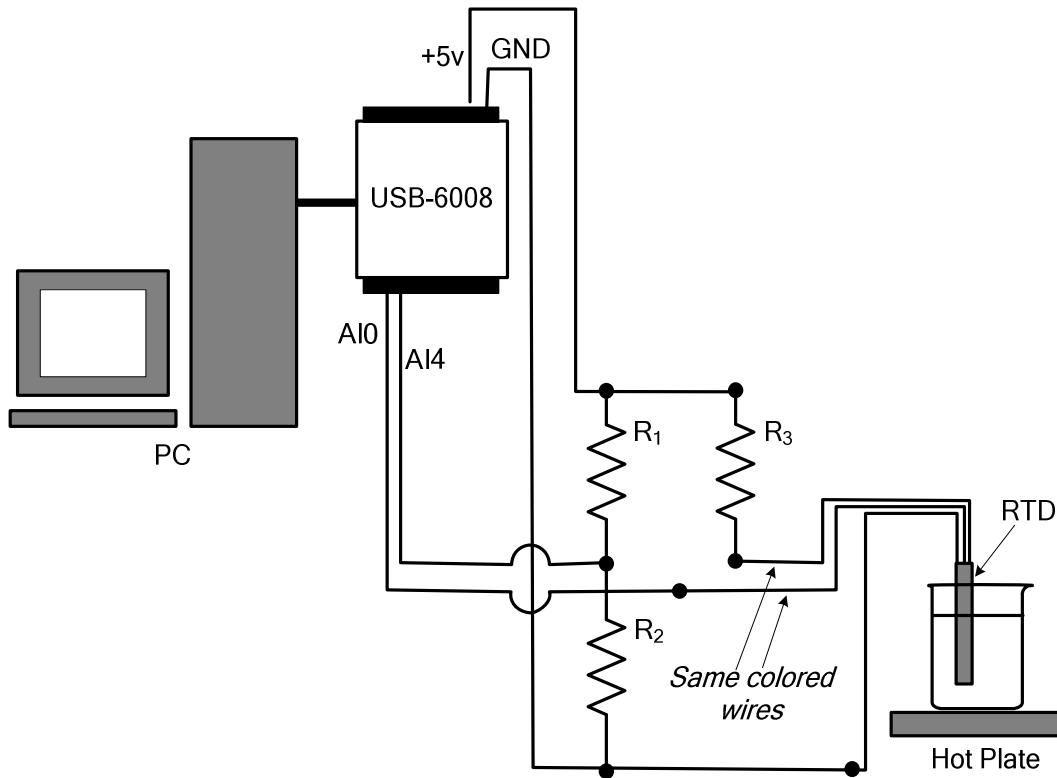

Figure 3
1. Prepare the setup shown in Figure 3 and the **RTD VI** in Figure 4.